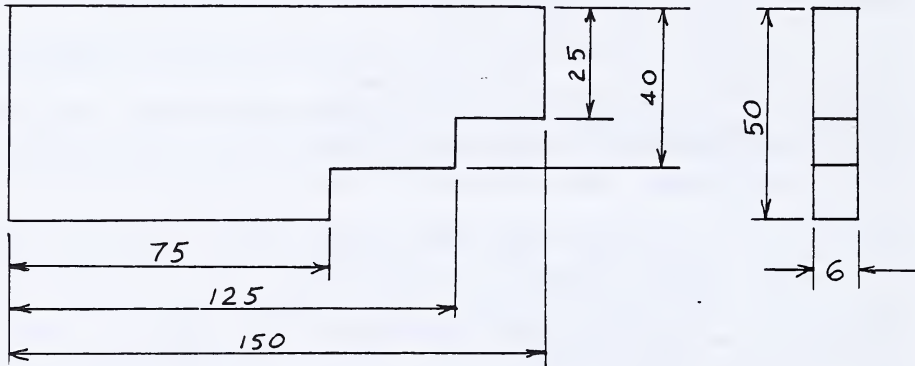
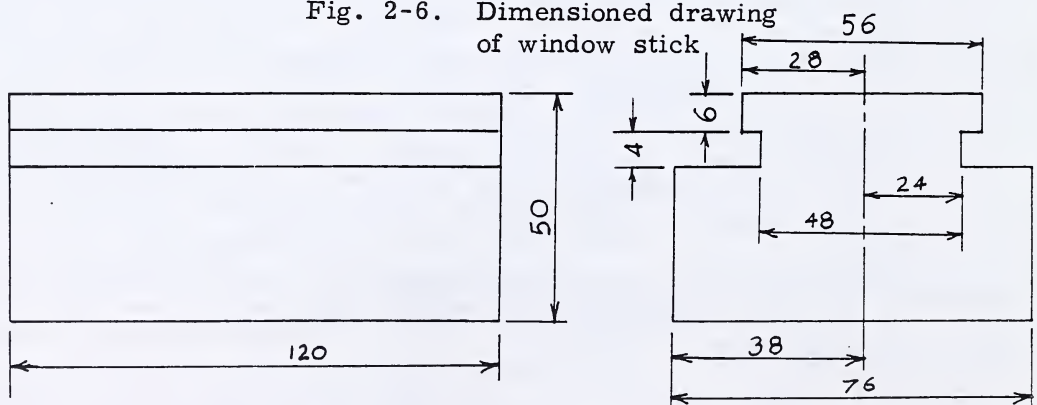

Fig. 2-6. Dimensioned drawing of window stick
Fig. 2-7. Grooved block. Note dimensioning from center line in side view.
2. Place dimension 10 mm or more from the object. (Never crowd the dimensions against the side of the object.) If there is more than one dimension place them evenly apart as in Figs. 2-6 and 2-7. Uniform placing of dimension lines not only makes the drawing look better, but it makes it more convenient to read.
8. Keep dimensions OUTSIDE the object whenever possible. Sometimes this cannot be done without long extension lines, in which case they must go within the object as in Fig. 2-7.
You are now going to use your drawing board, T-square, triangles, and scale to make the drawing shown in Figs. 2-6 and 2-7, on page 8. Use the proper methods we have discussed in Lesson 1 and in this lesson.
Copy the two drawings, Fig. 2-6 and Fig. 2-7, full-size, each on the sheets of drawing paper, prepared with borders in Exercise 6 and give all dimensions. Use your hard or 4H pencil for laying out the drawing. Afterwards, go over the object outlines with the soft, or H pencil. Remember to carry out all the instructions you have learned: